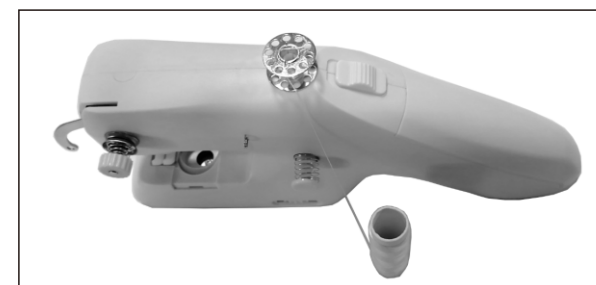

Fig. 3
3. Place an empty bobbin onto the bobbin winding pin, and put the thread tail through any hole in the bobbin (Fig. 3).